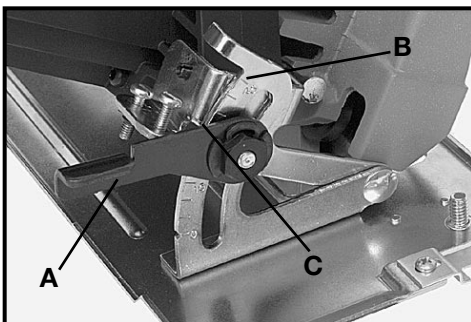
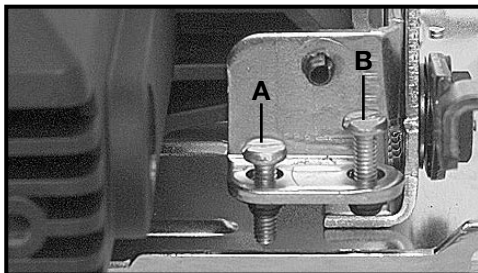

Fig. 5
Fig. 6
2. Lift up bevel adjustment locking lever (A), Fig. 5.
3. Tilt saw base until desired graduation line on the bevel segment (B), Fig. 5, lines up with indicating mark (C), Fig. 5 on bracket.
This saw is equipped with adjustable positive stops for both 90° (A), Fig. 6, and 45°
bevel (B), Fig. 6, cuts. These have been set at the factory and it is recommended they be checked occasionally to assure accuracy.
2. Loosen bevel adjustment locking lever (A), Fig. 5, and position base for 90° cuts being sure that the top of the base is in contact with the bottom of stop screw (A), Fig. 6, and tighten locking lever.
2. Loosen bevel adjustment locking lever and tilt base until top of stop screw (B), Fig. 6, contacts extension on bevel segment and tighten locking lever.